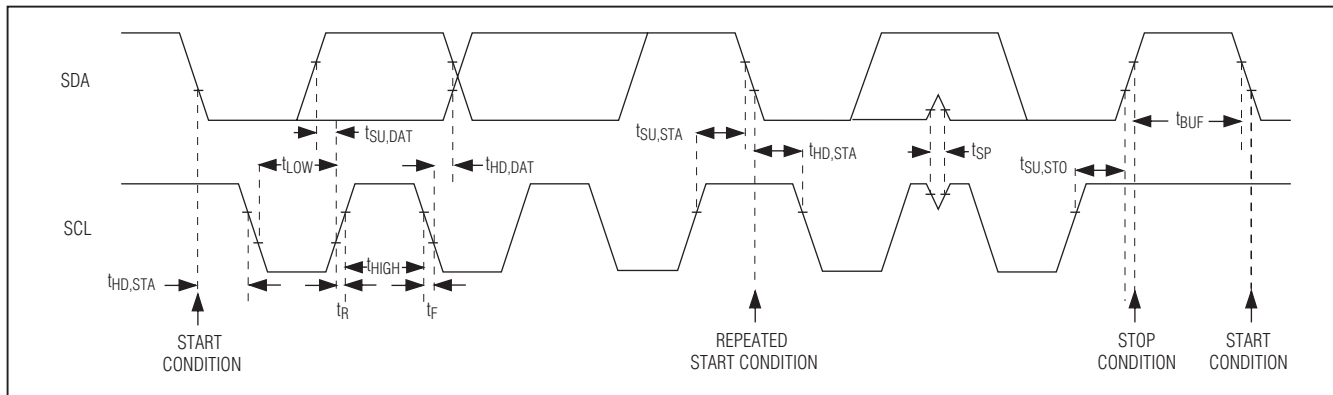

Figure 10. I²C Interface Timing Diagram
The IC features an I²C/SMBus™-compatible, 2-wire serial interface consisting of a serial-data line (SDA) and a serial-clock line (SCL). SDA and SCL facilitate communication between the IC and the master at clock rates up to 400kHz. Figure 10 shows the 2-wire interface timing diagram. The master generates SCL and initiates data transfer on the bus. The master device writes data to the IC by transmitting the proper slave address followed by the register address and then the data word. Each transmit sequence is framed by a START (S) or REPEATED START (Sr) condition and a STOP (P) condition. Each word transmitted to the IC is 8 bits long and is followed by an acknowledge clock pulse. A master reading data from the IC transmits the proper slave address followed by a series of nine SCL pulses. The IC transmits data on SDA in sync with the master-generated SCL pulses. The master acknowledges receipt of each byte of data. Each read sequence is framed by a START or REPEATED START condition, a not acknowledge, and a STOP condition. SDA operates as both an input and an open-drain output. A pullup resistor, typically greater than 500Ω, is required on SDA. SCL operates only as an input. A pullup resistor, typically greater than 500Ω, is required on SCL if there are multiple masters on the bus, or if the single master has an open-drain SCL output. Series resistors in line with SDA and SCL are optional. Series resistors protect the digital inputs of the IC from high voltage spikes on the bus lines, and minimize crosstalk and undershoot of the bus signals.